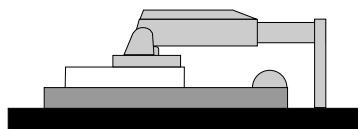

Figure S.1
3. Place monitor face down on a non-abrasive surface. (**Figure S.1**)